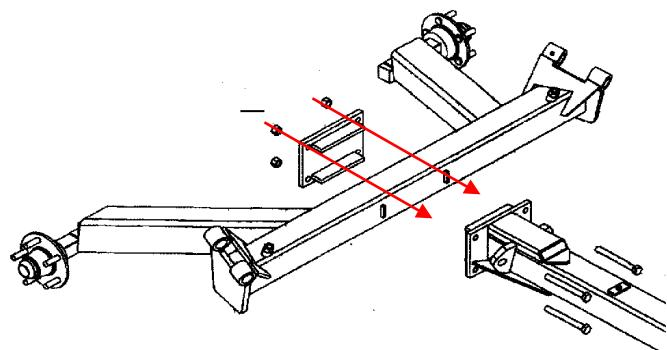

FIG. 29
a) Attach the drawbar (52) to the back frame (31) by bolt (27) and plate of frame (41). Attach the jack (5) and wheel (36). Fig 29.